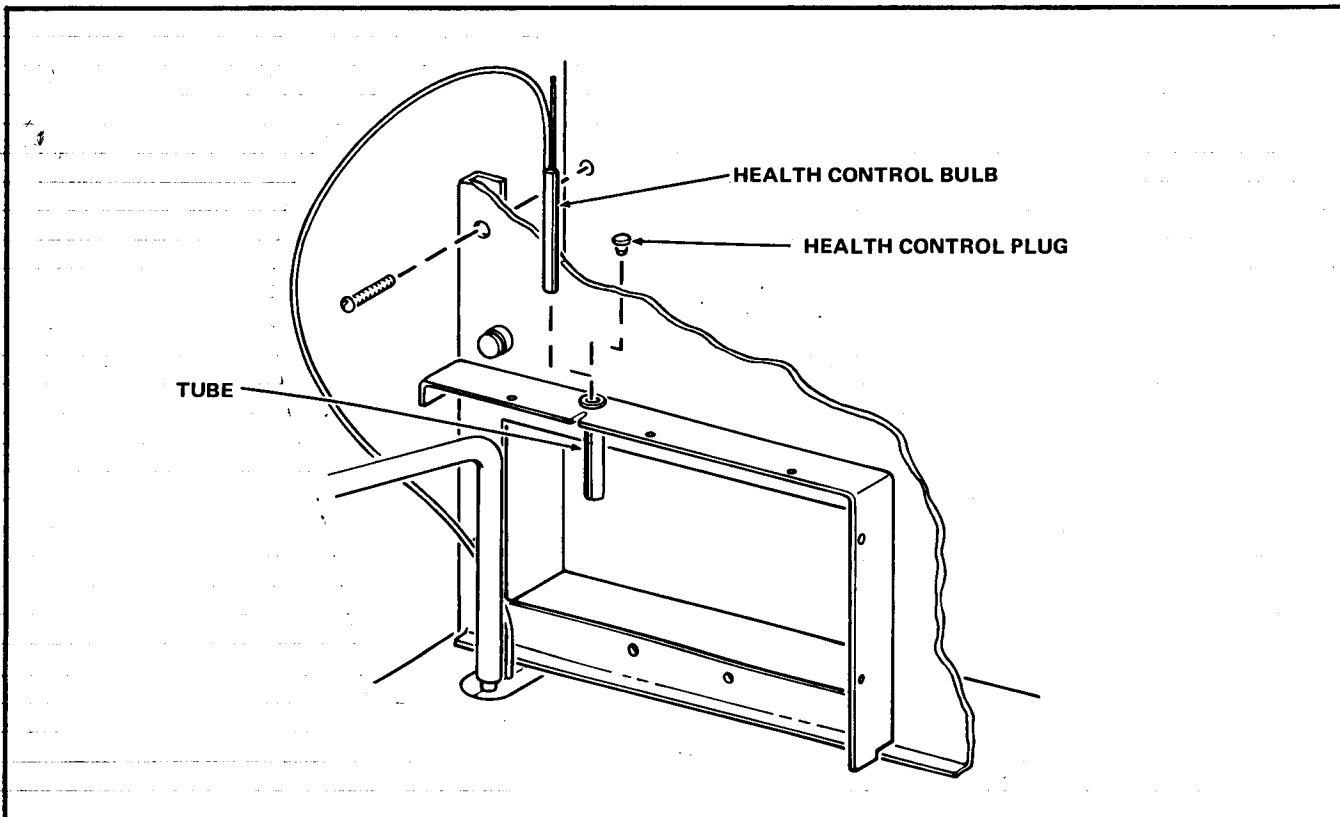

FIGURE 6
23. Remove the Health Control Plug and pull the Health Control Bulb out of the Tube in the Right Tray Support Assembly. See Figure 6.
13. Install the Health Control Plug and Health Control Bulb, removed in Step A-23, into the Tube in the Right Tray Support Assembly. See Figure 6.